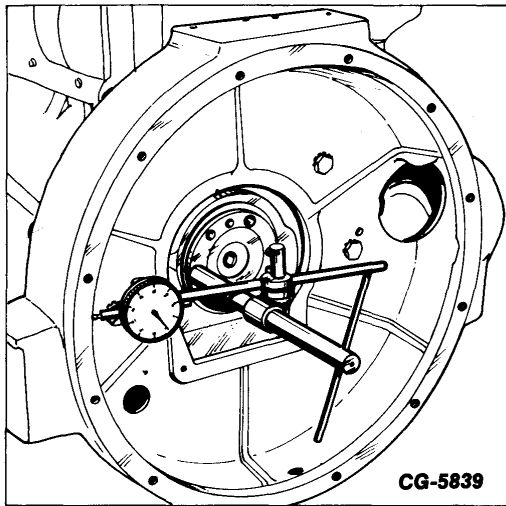

Figure 14. - Checking the Concentricity of the Flywheel Housing Bore in Relation to the Axis of the Crankshaft.
- a. Attach a dial indicator to the crankshaft and place the indicator pointer against the flywheel housing bore as shown in Fig. 14.